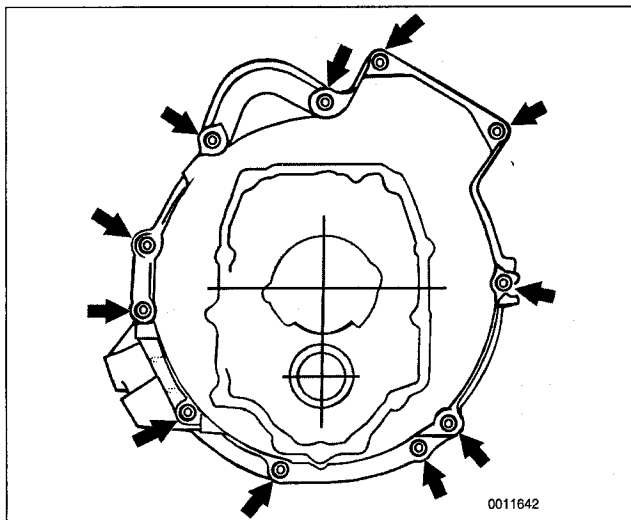

Fig. 13. Transmission mounting bolts.
13. Remove transmission mounting bolts (Torx-head). Note length and location of bolts. See Fig. 13.